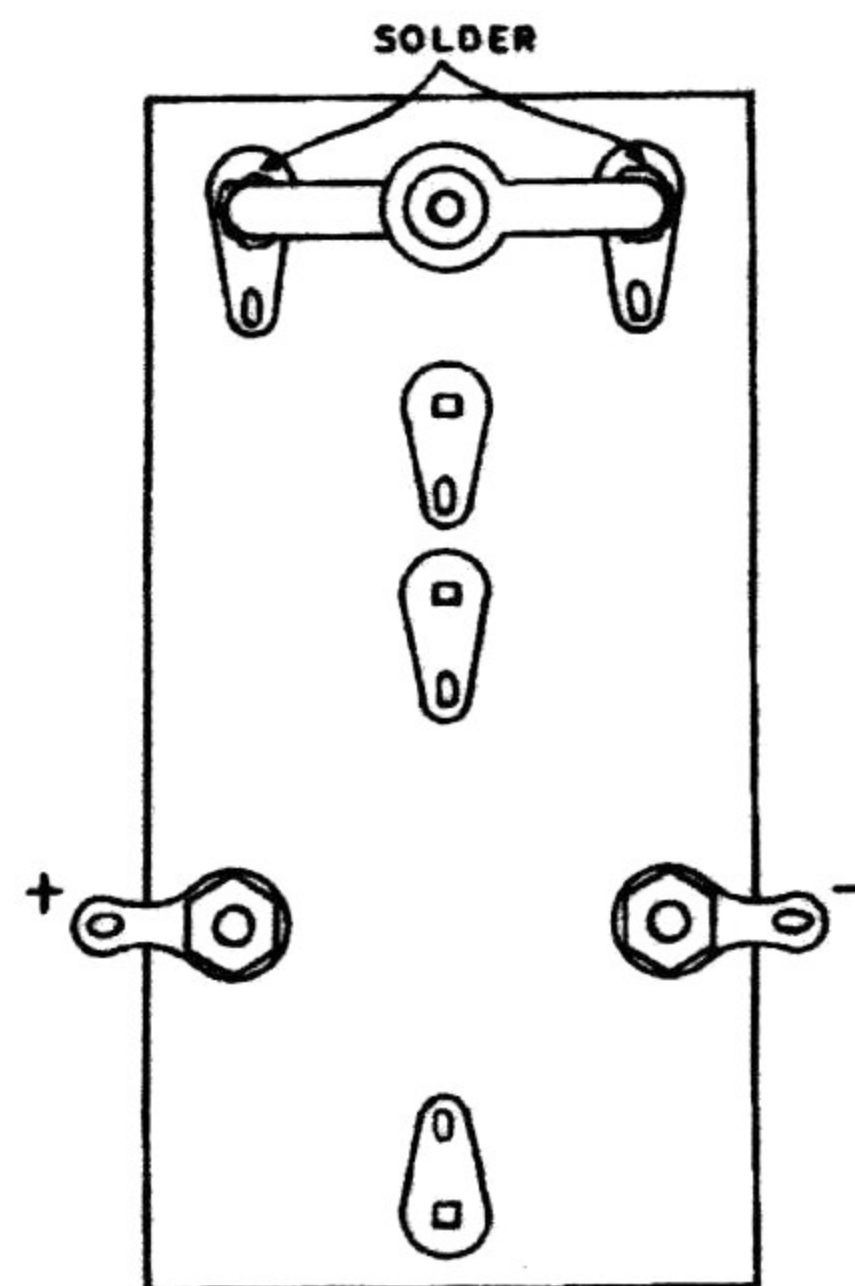

Figure 7
- ( ) Solder the pilot light socket to the terminals as shown in Figure 7 (S).